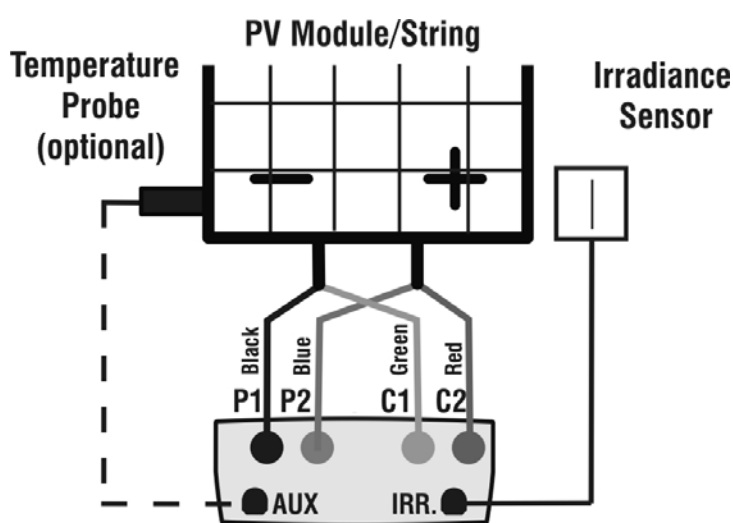

Fig. 5: Connection of meter to PV module/string
15. Connect the meter to the module/string under test as shown in Fig. 5. In particular, connect the negative output pole to P1, C1 input terminals and the positive output pole to P2, C2 input terminals